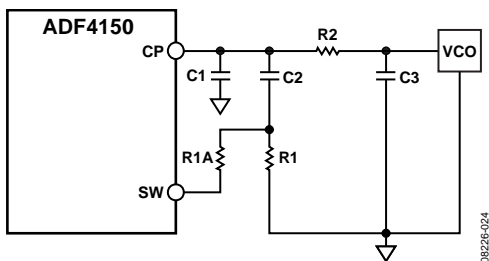

Figure 28. Fast Lock Loop Filter Topology—Topology 2
- An extra resistor (R1A) is connected directly from SW, as shown in Figure 28. The extra resistor is calculated such that the parallel combination of an extra resistor and the damping resistor (R1) is reduced to  $1/4$  of the original value of R1 (see Figure 28).